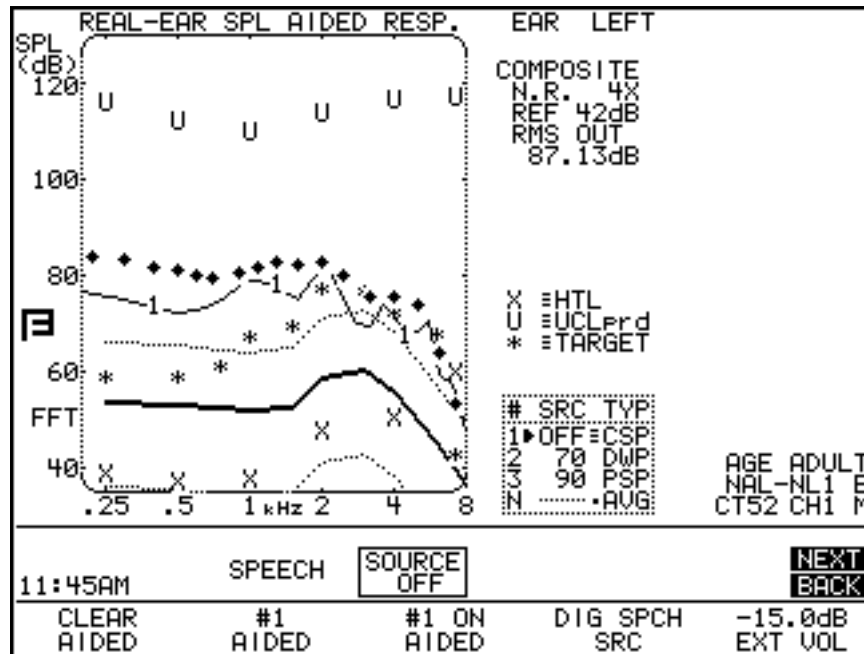

Figure 4.6.1—Visible Speech Testing
3. Examine the measurement graph. The screen will display the hearing aid’s response to the live voice or pre-recorded signal and how it relates to the displayed speech banana. If you chose the BARS setting in step 9 of the Setup section, you will also see a succession of bars on the screen, indicating the maximum peaks of the speech. If you chose the AVERAGE setting, you will see a second curve composed of small diamonds indicating the long term average response over the time of the test. See Figure 4.6.1.